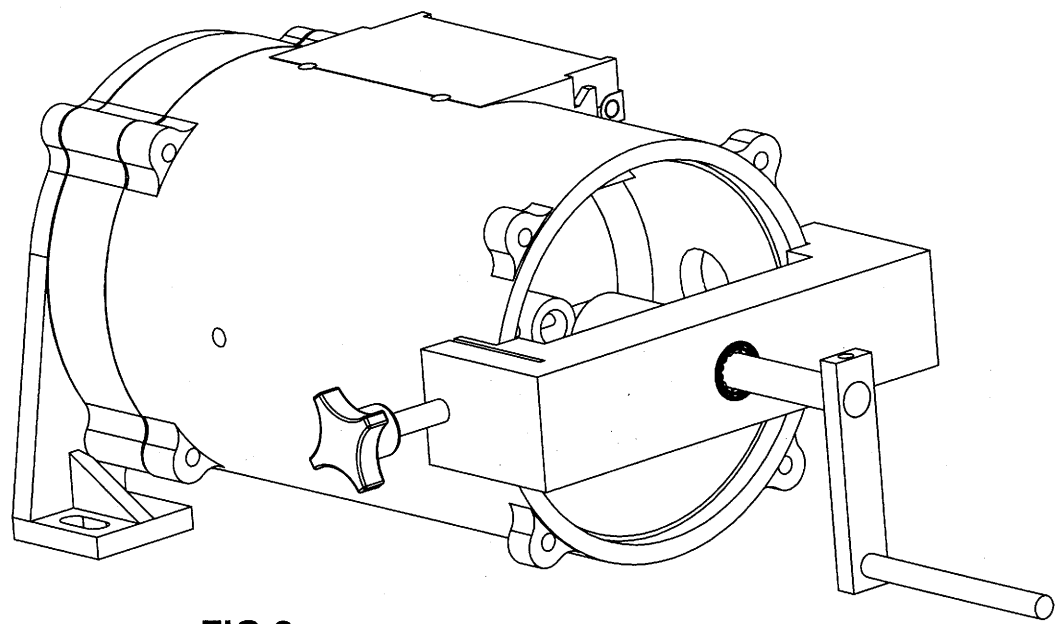

FIG.2
- ATTACH LARGER TOOL TO THE OUTSIDE OF THE PT9000 BODY BY TIGHTENING THE LOCKING KNOB. (FIG.2)